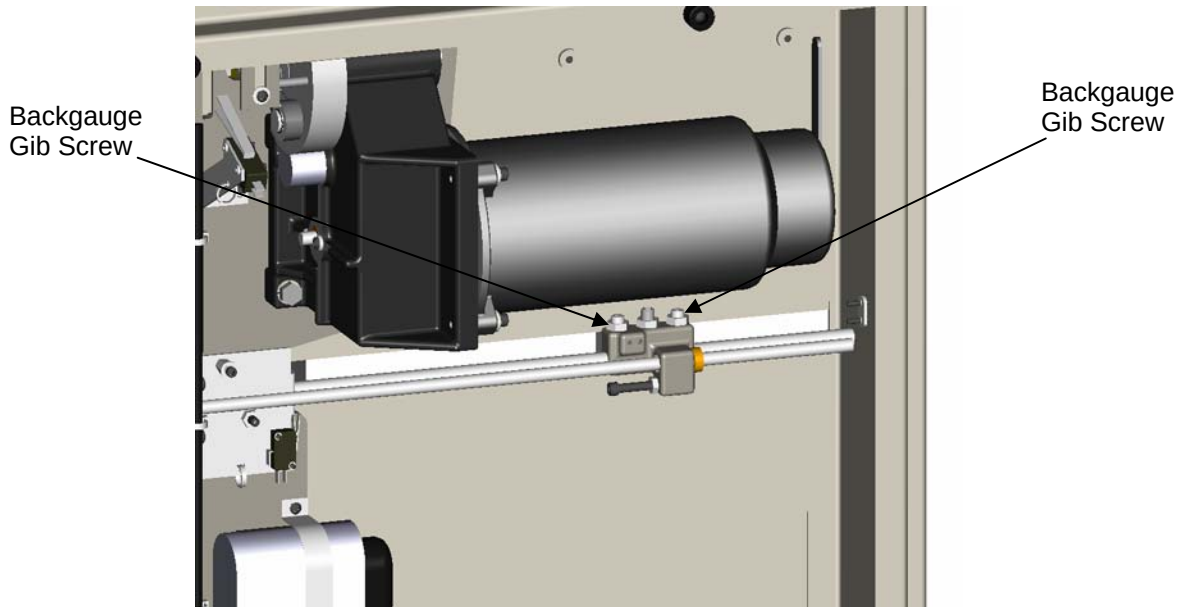

Figure 12
3. Loosen the two outside gib screw jam nuts (Figure 12, page 16).